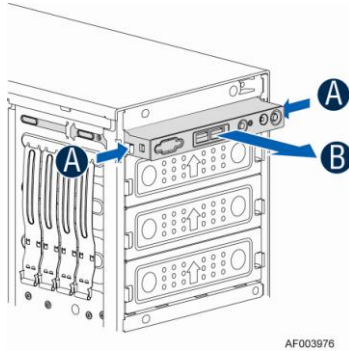
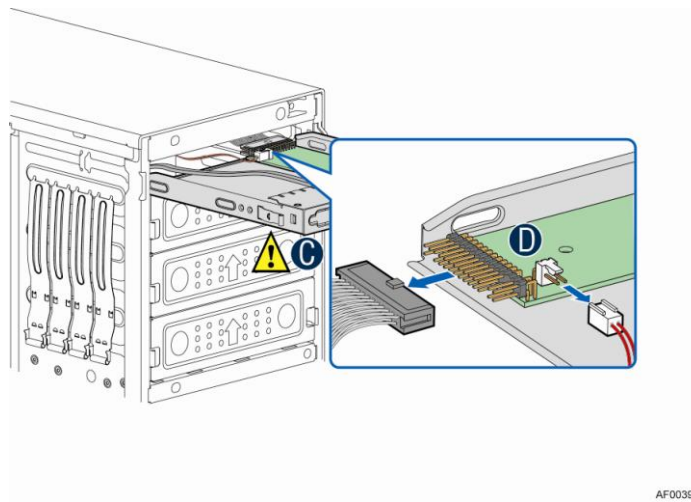

Figure 4. Sliding the Front Panel Tray out from the Chassis
Figure 5. Disconnecting the Cables from Front Panel Board
3. Press the latch at the sides of the front panel (see letter **A** in Figure 4). And carefully slide the front panel (see letter **B** in Figure 4) out from the front of the chassis to the place (see letter **C** in Figure 5) so that you can reach the front panel and intrusion switch connectors at the rear of the front panel board. Then disconnect the front panel cable and intrusion switch cable from the front panel board (see letter **D** in Figure 5).